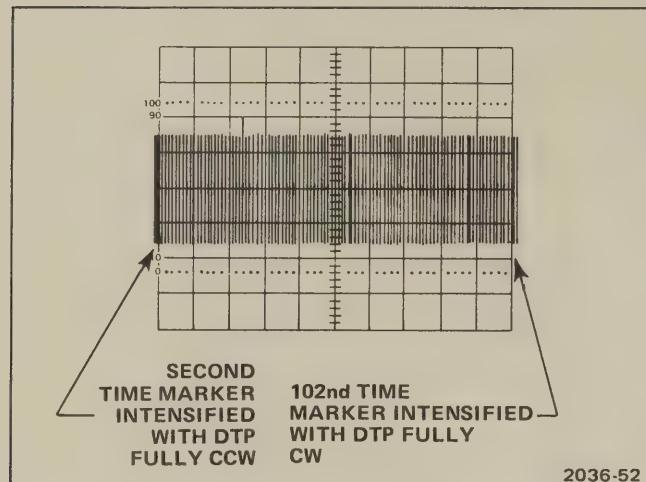

Fig. 6-3. Sweep start and stop adjustment (464, 465, or 466).
- Verify exactly one time marker per division. If not, adjust R1237 (465) or R1257 (464 and 466) for exactly one time marker per division.
- ADJUST—R1115 to intensify the second time marker (see Figure 6-3).
- Horizontally position intensified time marker to first horizontal graticule line (see Figure 6-3).
- i. **ADJUST**—R1145 to intensify 102nd time marker at far right graticule line (see Figure 6-3).